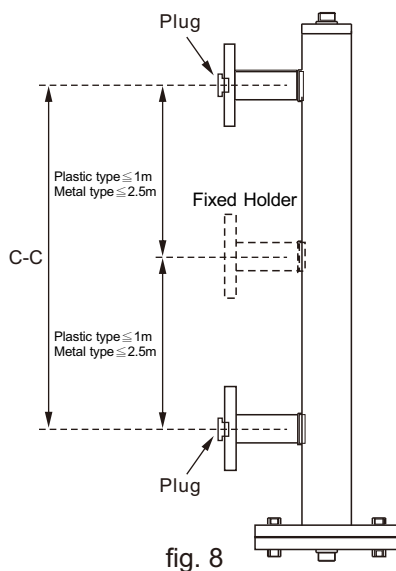

fig. 8
11. C-C length (plastic type >1.5m; metal type >3.5m), fix support is recommended. The distance between fix support/ flanges shall be within 1 m (plastic type); 2.5 m (metal type). It depends on the application to have different fix support, FineTek provide customized service as fig. 8 showed.
12. Dust-proof plug on the flanges should be removed before installation, as fig. 8 showed.